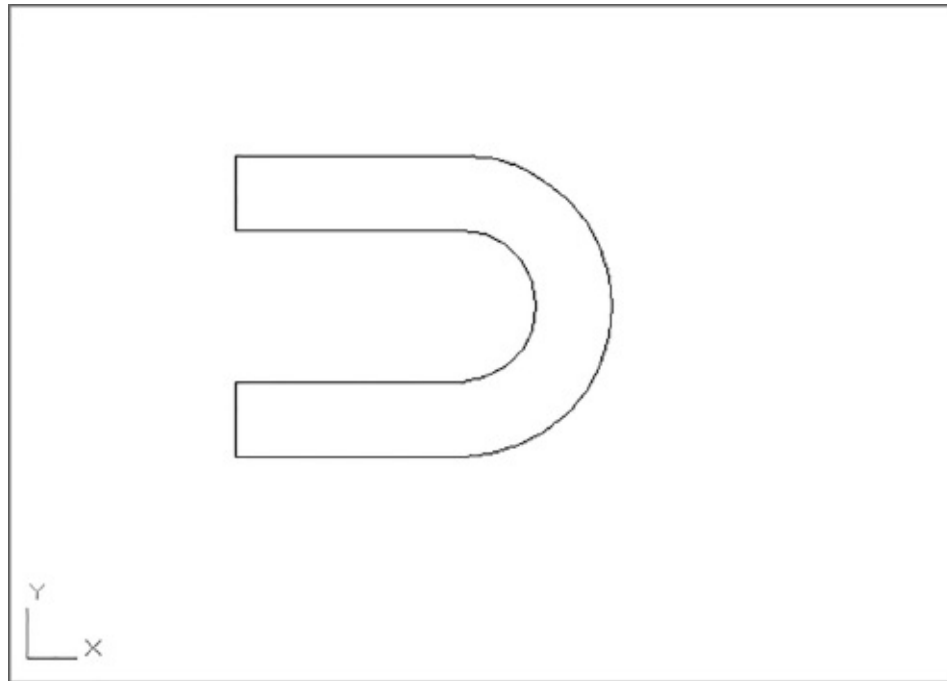

FIGURE 18.6 The polyline so far
1. Connect the ends of the polylines with two short line segments (see Figure 18.6).